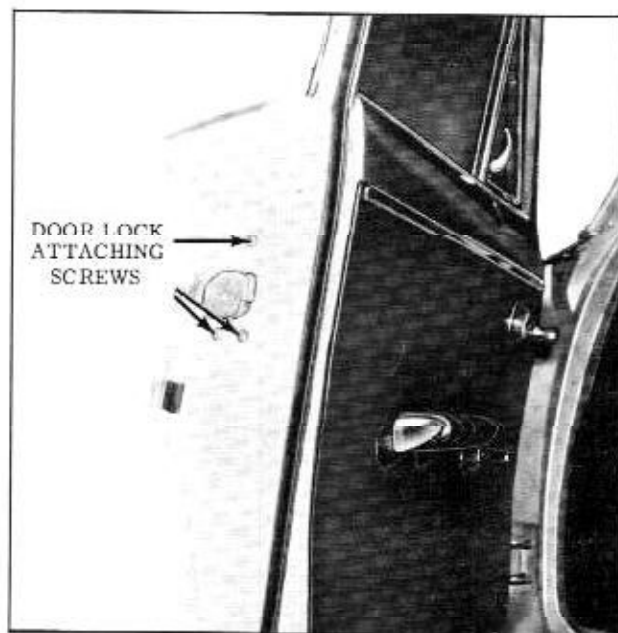

Fig. 15-33 Door Lock Attachment
- Remove door lock attaching screws and remove lock assembly through inner panel access hole. (Fig. 15-33)